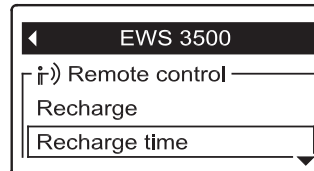

FIG. 116
3. Press the DOWN (▼) button to scroll through the menu options until **Recharge time** is highlighted in a box (See Figure 116).
6. Press the SELECT (O) button. The display will go back to the conditioner/refiner menu (Figure 116).